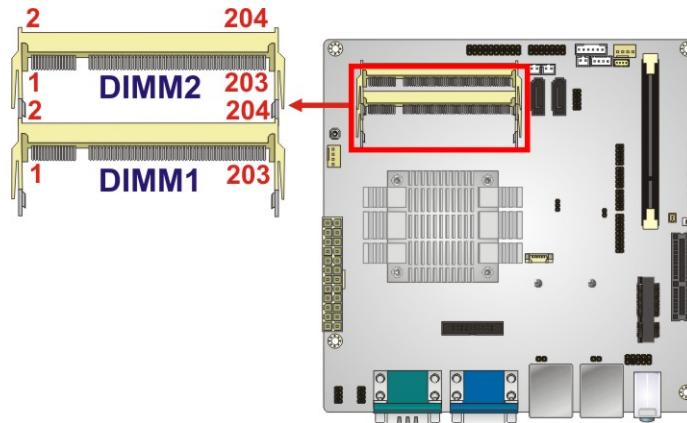

Figure 3-15: Memory Card Slot Locations
- CN Location: See Figure 3-15